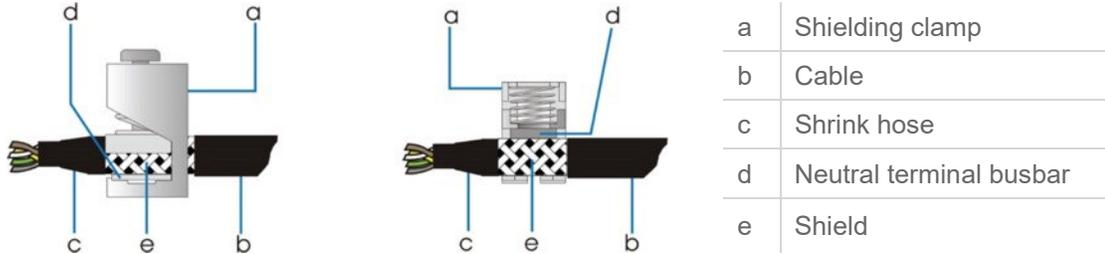

Figure 23: Left: Shield over cable, hand-fasten shield securing clip, Right: Shield over cable, spring-type terminal
4. Attach the cable using the shield securing clip (left in Figure 23 below) or using the spring-type terminal (right in Figure 23 below).